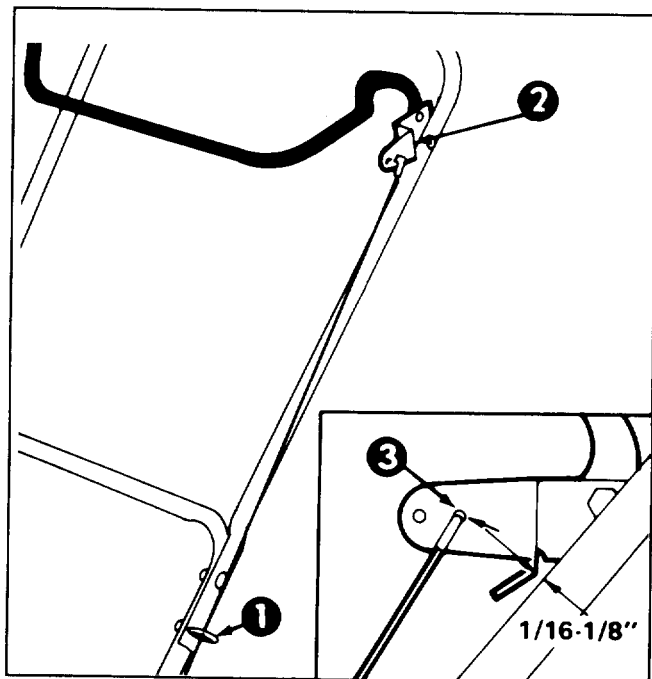
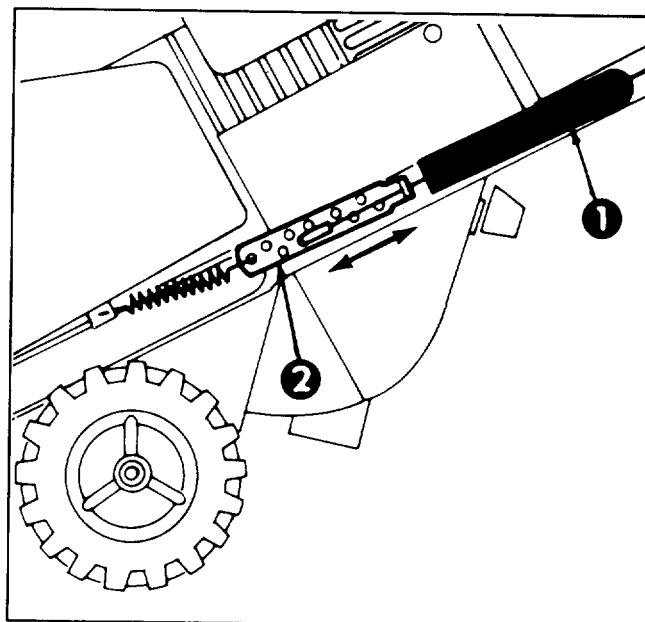

Figure 9
Figure 10
2. CHECK ADJUSTMENT (Fig. 9)—Move control bar back toward handle until slack in cable is removed. Gap between control bar bracket and handle should be approximately $1/16"$ – $1/8"$. If cable is too loose or too tight, proceed to step 3 for adjustment procedure.
3. ADJUST CABLE—Unhook upper cable end from hole in control bar bracket (Fig. 9). Slide spring cover up cable to expose cable adjuster (Fig. 10). Unhook lower cable end from adjuster. Reposition cable end in a higher or lower hole on adjuster to obtain a gap of $1/16"$ – $1/8"$ between control bar bracket and handle. (Positioning cable end in a lower hole decreases gap; positioning cable end in a higher hole increases gap.) Reinstall upper cable end into rear hole in control bar bracket (hole with arrow) (Fig. 9). Slide spring cover over cable adjuster and recheck adjustment. Repeat procedure until the proper gap of $1/16"$ – $1/8"$ between control bar bracket and handle is obtained.